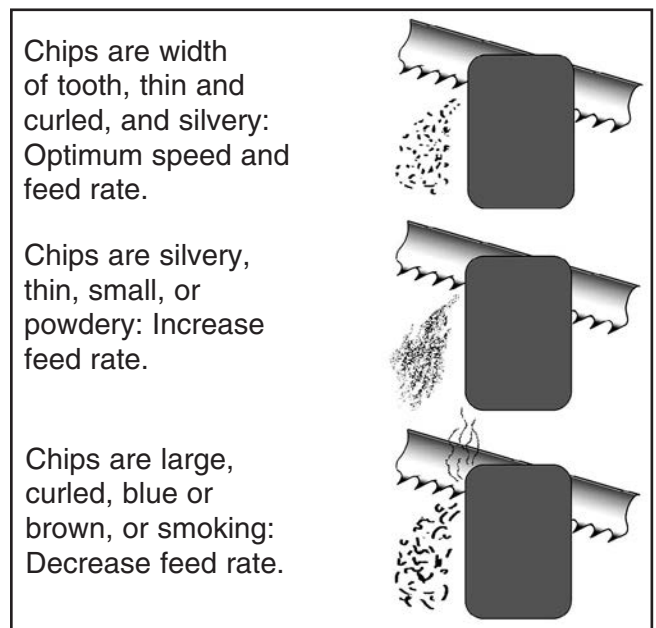

Figure 21. Reading chip characteristics.
7. Observe the chips that exit the cut, and increase or decrease the feed rate according to the chip characteristics (see **Figure 21**).